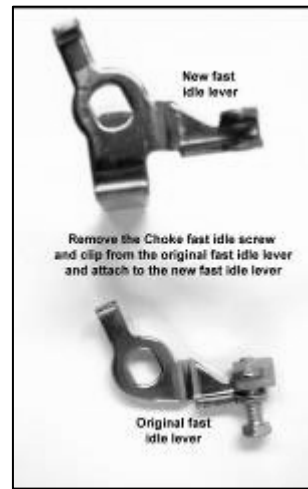

Figure 5
5. Remove the fast idle screw and retaining clip from the original fast idle lever and install on the new fast idle lever from the kit. Make sure you count the threads on the screw and install in the same position. (Figure 5)